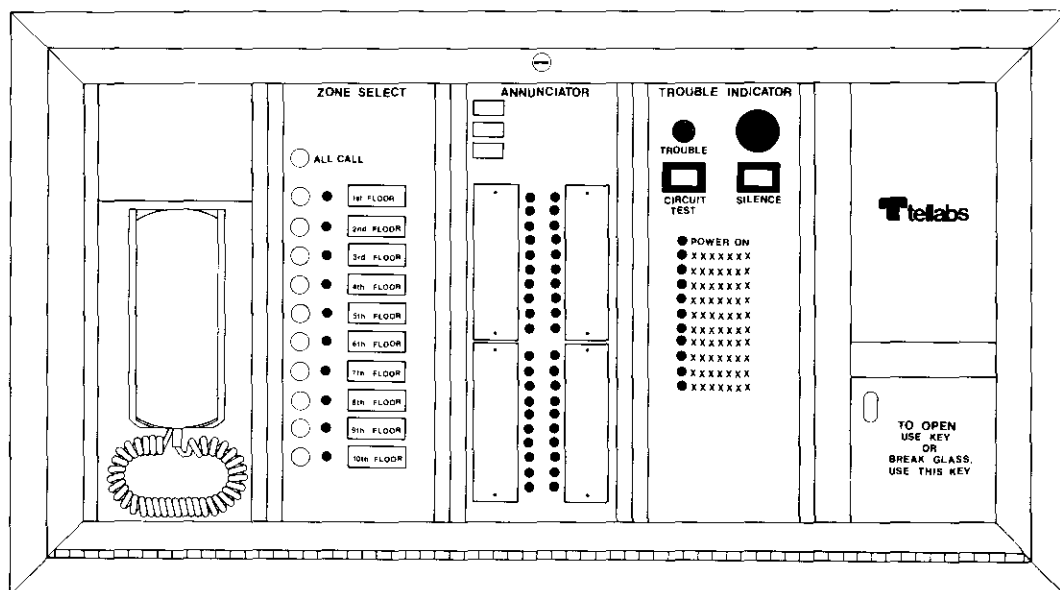

figure 7. 293 System Activation Panel
2.30 The 293 System Activation Panel provides the activation control for the 293 System in the event of an emergency or for routine testing (please refer to figure 7). This wall-mounted panel features a key lock to ensure controlled access to the activation controls. However, this panel also allows emergency access via a key obtained by breaking the small glass cover in the lower right corner. The Activation Panel is made up of the following sections: